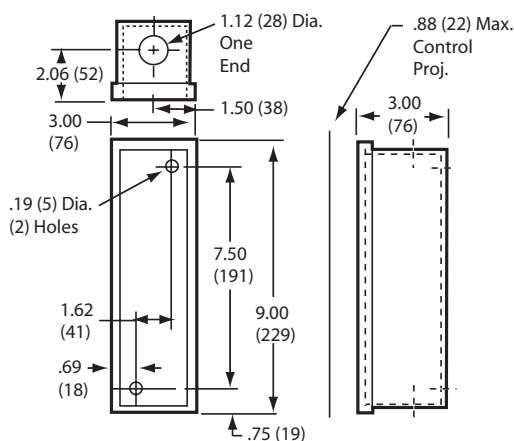

Figure 4. Operator Control Station Dimensions
- Standard operator control stations can be wall-mounted using the two holes in the back of the enclosure. See Figure 4.